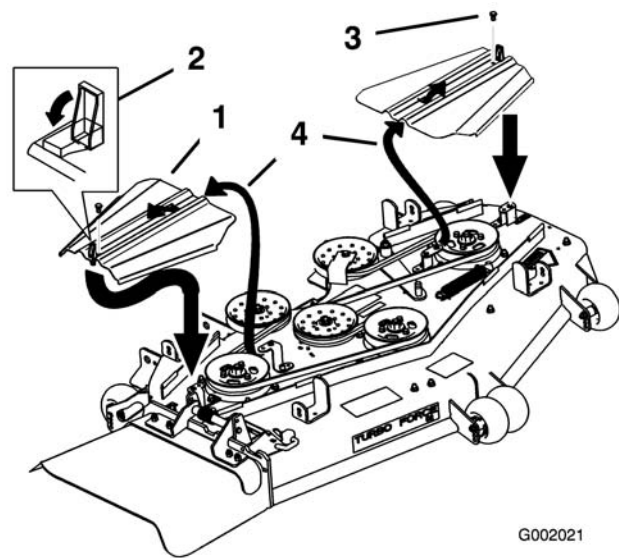
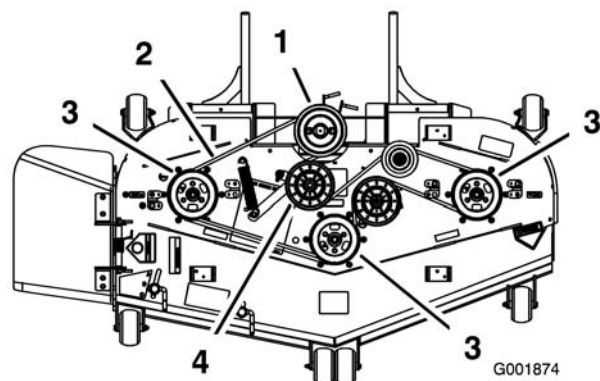
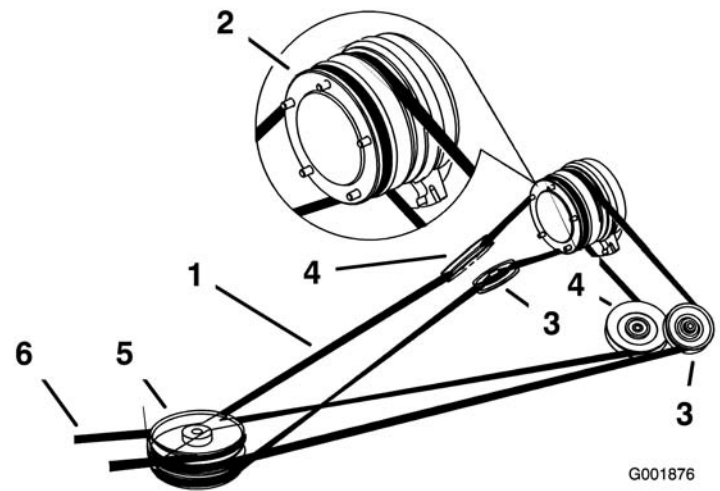

Figure 59
Figure 60
Figure 62
5. Remove the mower belt from the mower pulleys and the top pulley of the three stacked pulleys (Figure 59 and Figure 60).
6. Install the new belt around the mower pulleys and the top pulley of the three stacked pulleys (Figure 59 and Figure 60).
7. Pull on the spring loaded idler arm to loosen the belt tension and align the mower belt onto the idler pulley (Figure 60).
8. Install the belt covers with the tabs in the slots. Install the screws and close the latches (Figure 59).
3. Remove the screws and belt covers (Figure 59).
4. Pull on the spring loaded idler pulley to loosen the belt tension (Figure 62).
5. Remove the mower belt from the top pulley of the three stacked pulleys (Figure 60 and Figure 62).
7. Install the new drive belt around the clutch pulley, the adjustable idler pulleys, the spring loaded idler pulley, and the front three stacked pulleys (Figure 62).
9. Install the mower belt around the mower pulleys and the top pulley of the three stacked pulleys (Figure 60 and Figure 62).